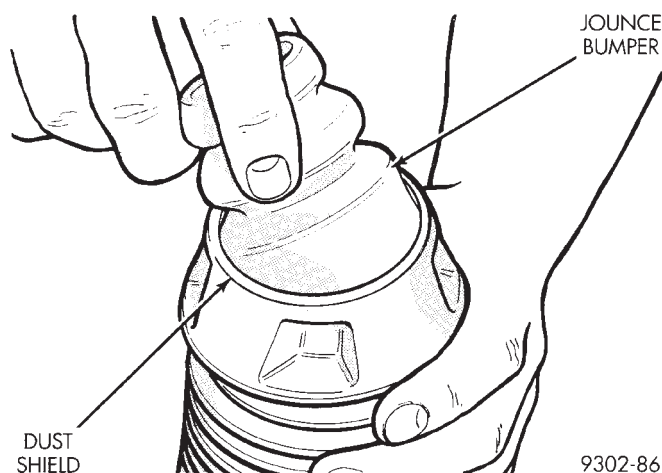
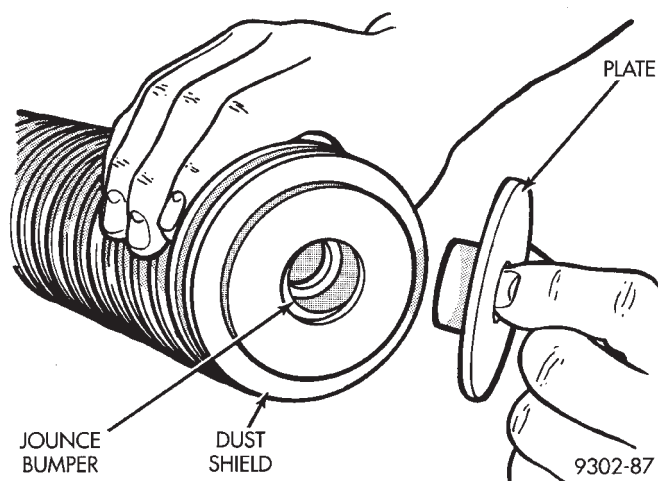

Fig. 45 Jounce Bumper Installed Into DustShield
Fig. 46 Plate Installation Into Jounce Bumper And Dust Shield
(2) Install jounce bumper into dust shield (Fig. 45). Install plate on top of dust shield and into jounce bumper (Fig. 46).